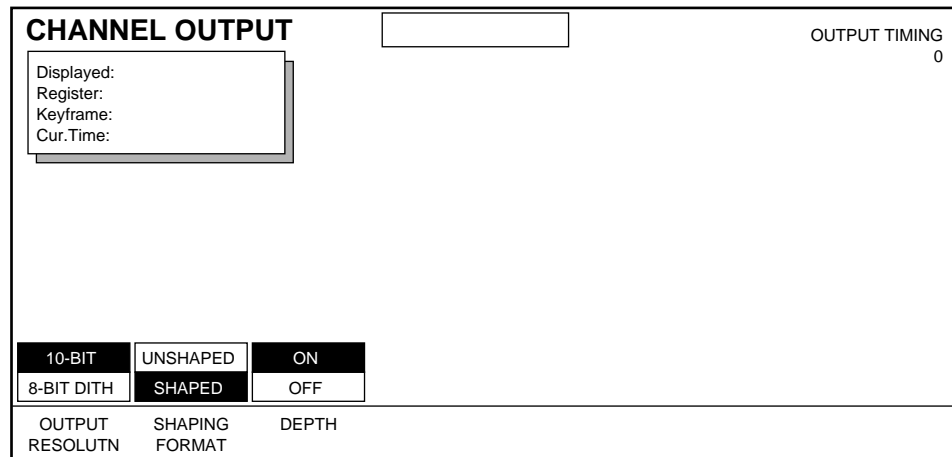

Figure 3-24. Channel Output Alignment Menu
1. From the System Alignment menu, press CHANNEL OUTPUT > to go to the Channel Output menu (Figure 3-24).